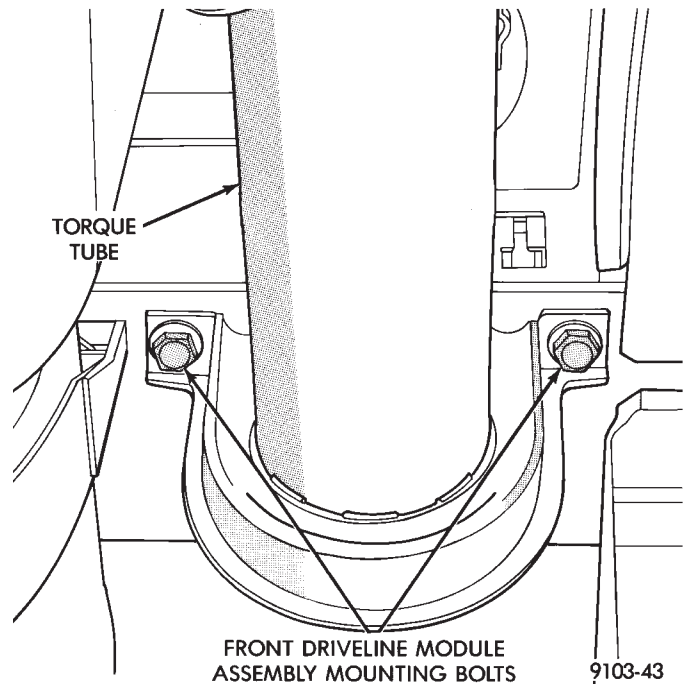

Fig. 5 Rear Drive Line Module Front Mounting Bolts
(9) Remove rear drive line module assembly front mounting bolts (Fig. 5).